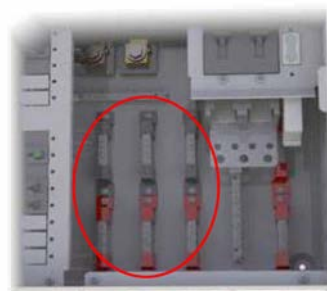
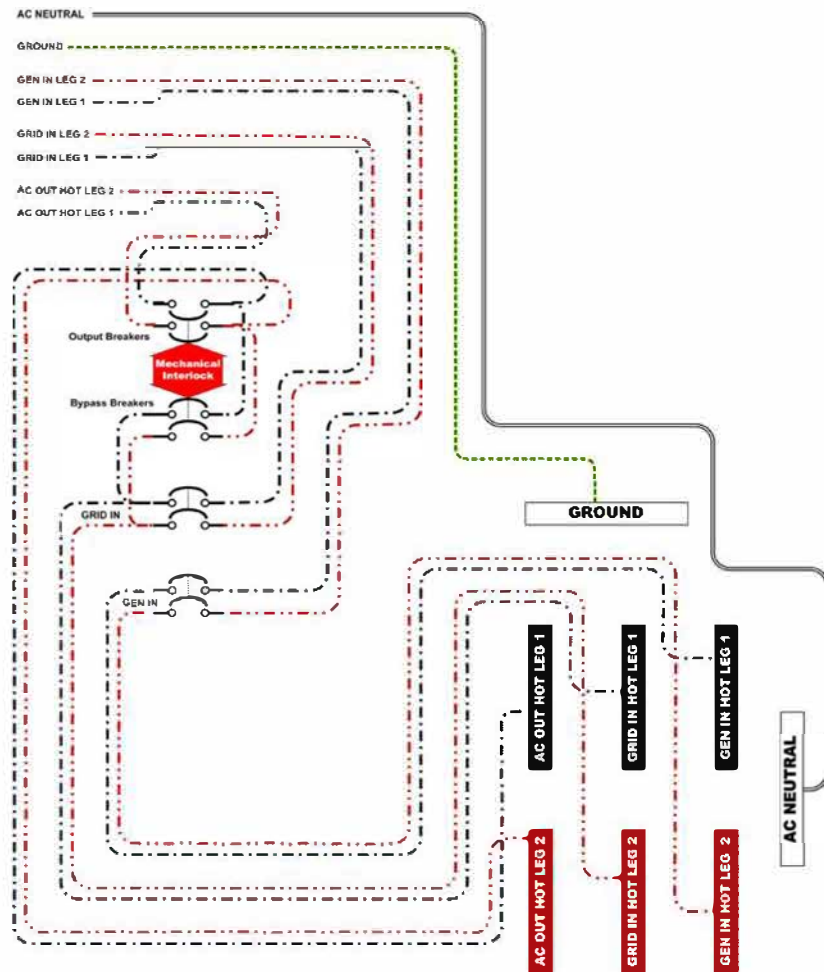

Figure 2 Bus Bar Positions
Figure 5 Basic AC Wiring
3. Apply the correct label from the label set to the chassis near each bus bar for identification purposes. Figure 2 shows the standard locations for these bus bars. Figure 5 on page 7 shows the intended label positions.
The GS-IOB-120/240VAC comes with six red, six black, and one white wire that are labeled according to their intended electrical connection. It also comes with an unlabeled green wire, and four unlabeled short red and black wires. If the preceding steps are followed, as well as the drawing in Figure 5, these wires will have sufficient length to make the intended connections.
2. For each of the 12 wires, install the wire's ring terminal on the appropriate terminal post for each circuit breaker according to Figure 5. Typically each post is equipped with two identical star washers. The ring terminal on the wire should be installed between these star washers. If there is only one star washer, install the ring terminal on the post first, then the star washer and the remaining hardware.
4. Install the 4 short wires between the input, output, and bypass circuit breakers as shown in Figure 5.
6. Connect the 12 wires from each circuit breaker to the appropriate bus bar as shown in Figure 5.